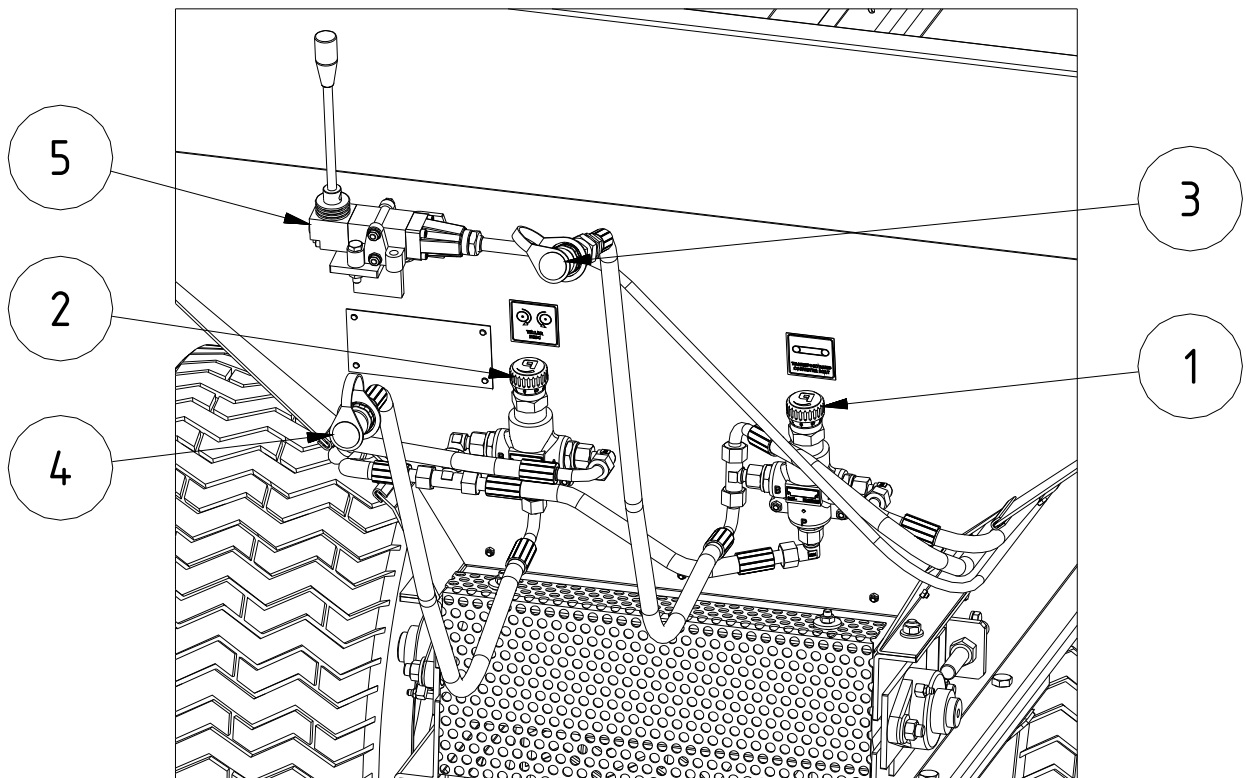

Fig. 1: Control elements
- Connect hydraulic lines (3) and (4) to towing vehicle as a closed oil circuit is required. (see page 9 – Fig. 1)
- Secure the valve actuator (5) for the conveyor belt to the towing vehicle using the supplied holder (see page 9 - Fig. 1).
- Regulating the conveyor belt speed using the controller (1) (see page 9 - Fig.1)
- Regulating the conveyor spreading speed using the controller (2) (see page 9 - Fig.1)